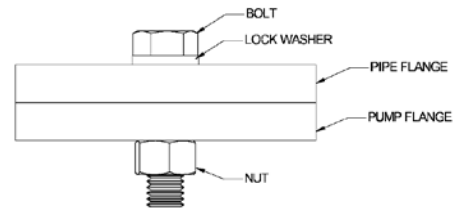

Fig 10
- When connecting piping to the pump suction and discharge flanges, if lock washers are used, install under the head of the bolt. See figure 10.